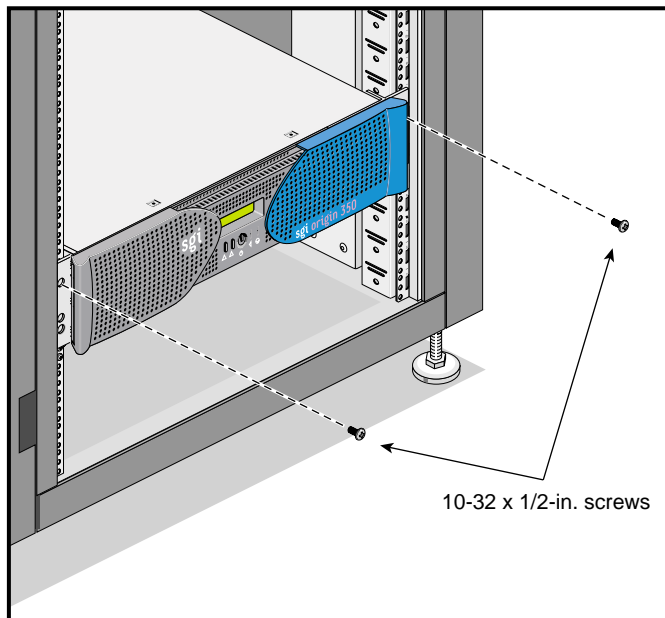

Figure 1-24 Securing the Module to the Rack
9. Set the rear edge of the module on the shelf rails. Then slide the module into the rack until the module ears are snug against the rack rails. See Figure 1-24.
10. Fasten the module to the front rails of the rack with the screws and clip nuts provided. See Figure 1-24.